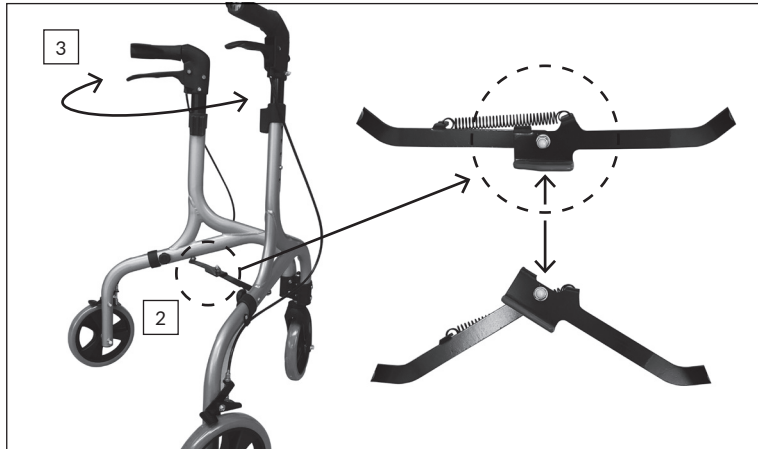

Figure 10:
2. Refer to Figure 10. Gently, push the cross-bar forwards to release the spring lock.